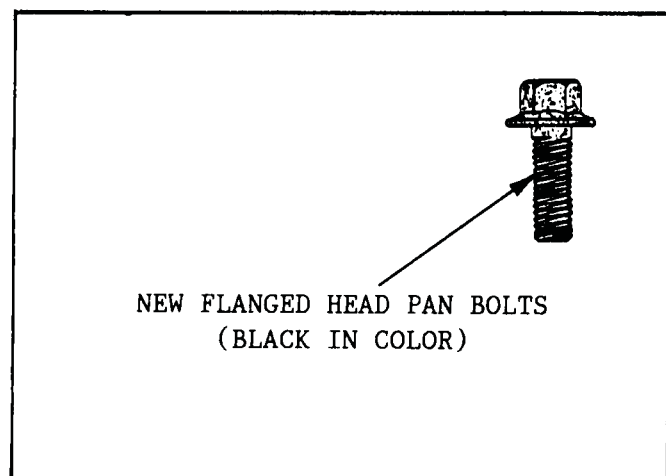

Figure 37
9. Notice that the pan bolts are flange head bolts and black in color (See Figure 37).